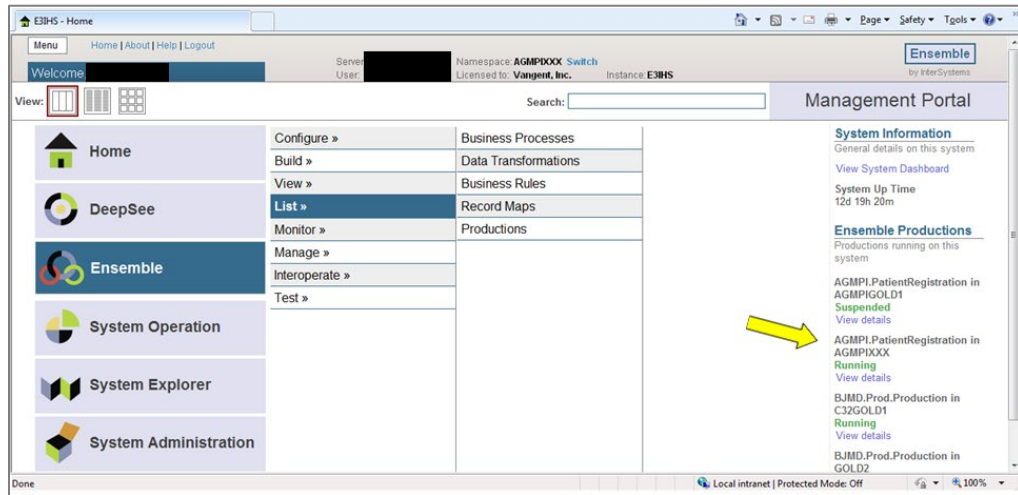

Figure 8-16: **Management Portal** page showing the **AGMPI.PatientRegistration** production instance with a status of Running
- For an alternative view of the currently running production, click **Ensemble** to display the production instance table on the **Management Portal** page, as shown in Figure 8-16.